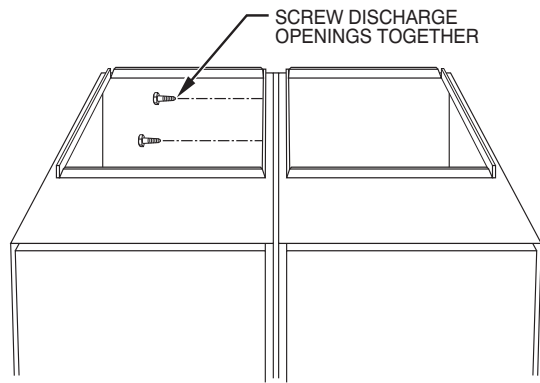
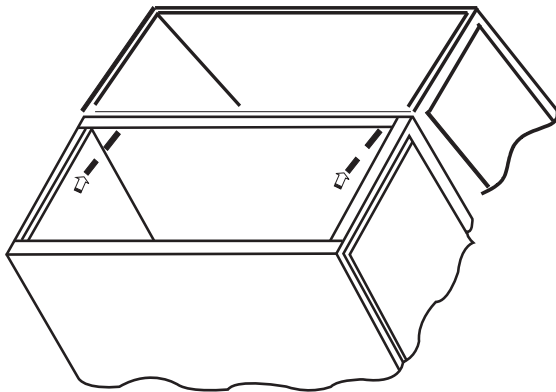

Fig. 7 – Furnaces Together at Discharge Opening
Fig. 8 – Attaching Furnaces Together at Return Air Opening
8. Drill two 1/8-in. (3 mm) holes, approximately 1-in. (25 mm) below discharge air flange, from inside top of discharge opening and through both furnaces.(See Fig. 7)
5. Drill two 1/8-in. (3 mm) holes, approximately 1-in. (25 mm) below return air flange, from inside top of return air opening and through both furnaces. (See Fig. 8)
7. Drill two 1/8-in. (3 mm) holes, approximately 1-in. (25 mm) below return air flange, from inside top of return air opening and through both furnaces. (See Fig. 8)
9. Drill two 1/8-in. (3 mm) holes, approximately 1-in. (25 mm) below discharge air flange, from inside top of discharge opening and through both furnaces. (See Fig. 7)
20. Drill two 1/8-in. (3 mm) holes, approximately 1-in. (25 mm) below return air flange, from inside top of return air opening and through both furnaces. (See Fig. 8)
22. Drill two 1/8-in. (3 mm) holes, approximately 1-in. (25 mm) below discharge air flange, from inside top of discharge opening and through both furnaces. (See Fig. 7)
11. Drill two -in. holes, approximately 1 in. (25 mm) below discharge flange, from inside top of discharge opening and through both furnaces. (See Fig. 7) Drill two -in. holes, approximately 1 in. (25 mm) below return air flange, from inside top of return air opening and through both furnaces. (Use Fig. 8 as an example).